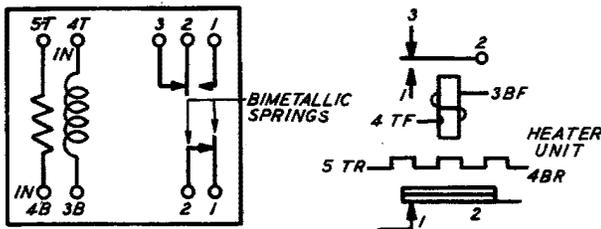

Fig. 53 – Winding and Spring Terminal Arrangement as Viewed From the Rear (terminal side) — 271-Type Relays
2.66 As viewed from the front, all springs on the relay are located to the left of the armature. The winding terminals of both the inductive winding (U-type relay coil) and the heater winding are located to the right. All winding terminals and all springs are designated the same as for U-type relays as described in 2.17 through 2.24. As viewed from the rear, the contact spring and winding terminals are designated as shown in Fig. 53. The circuit convention differs from that of the U-type relay in that it includes the thermal unit (heater unit and bimetallic contact springs).